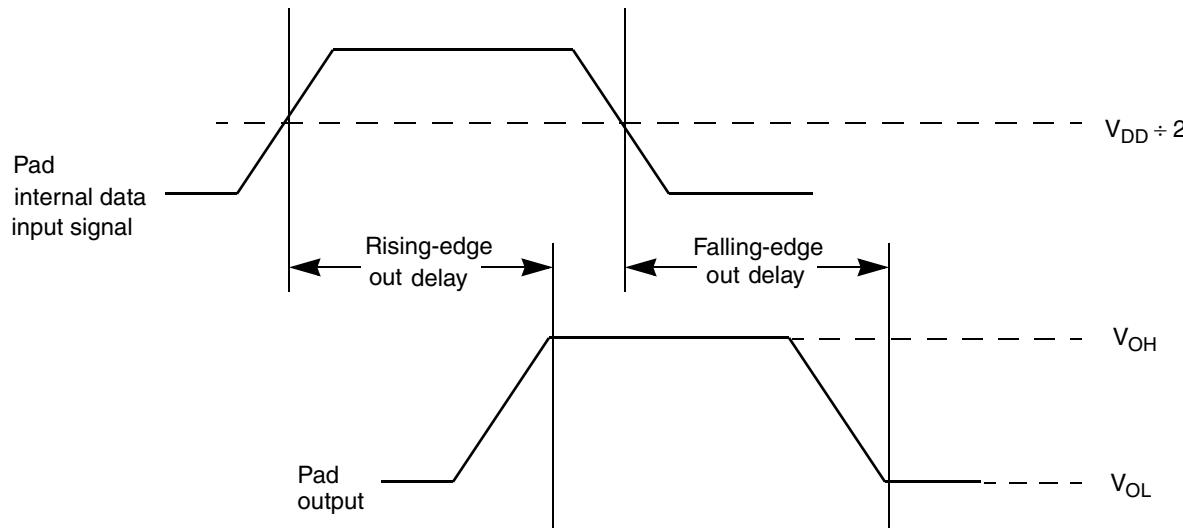

Figure 4. Pad Output Delay
- ⁴ The output delay is shown in Figure 4. To calculate the output delay with respect to the system clock, add a maximum of one system clock to the output delay.